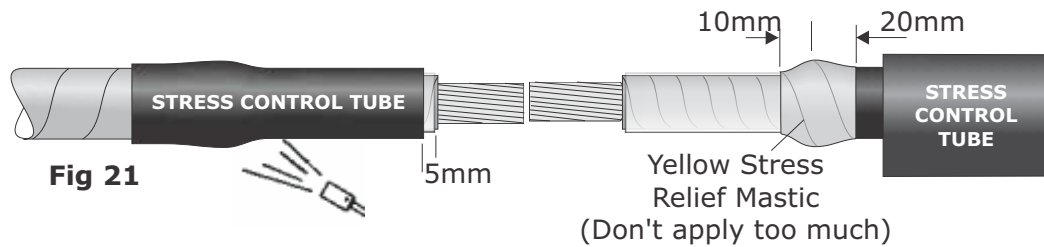

Fig 21
29. Position the stress control tubes as shown in Fig 21 and 22. Starting 5mm from the insulation end and using a soft flame torch, apply heat all around the tubes until fully recovered.